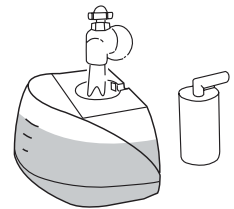

Fig.4
3. Fill the water tank up to or below the "MAX" fill line with clean water. Fig.4